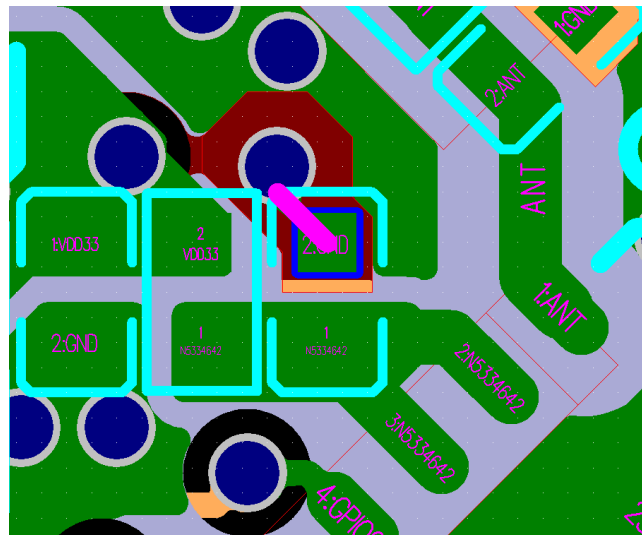

Figure 14: ESP8684 Analog Power Traces in a Four-layer PCB Design
- As shown in Figure 14, it is recommended to connect the capacitor to ground in the LC filter circuit near VDDA3P3 pins to the fourth layer through a via, and maintain a keep-out area on other layers.